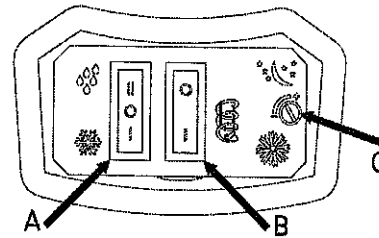

Fig. 5
B in position  - **I** see Fig. 5
2.4 Bowl controls (Fig. 5)
In position  - II (see Fig. 5)